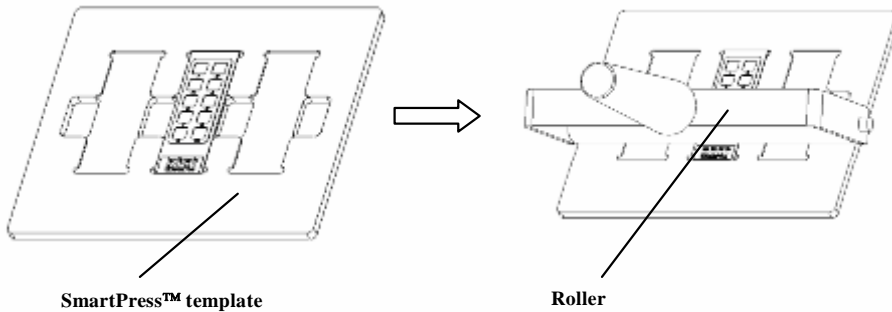

Fig. 9. Press the grid home with SmartPress™.
2.6 Place the slide into a trough of the SmartPress™ with gridded-side facing upwards. Holding the SmartPress™ template with one hand, press the grid firmly home against the slide surface with 2-3 uniform motions of the roller (Fig. 9).